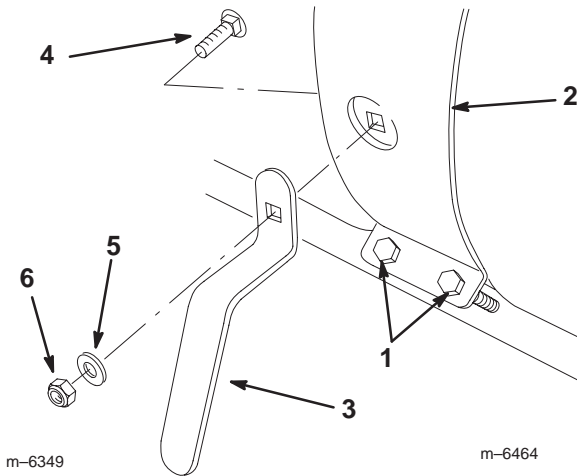

Figure 1
1. Remove the fasteners securing the right side of the rear tank strap (Fig. 1).
2. Install the lower hose hook as shown in Figure 1, using a carriage bolt (5/16 x 3/4 inch), a washer (3/8 inch), and a flange nut (5/16 inch).